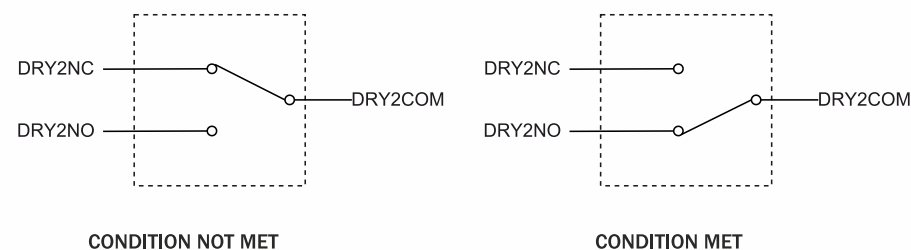

Fig.7 Relay 2 normal and fault operation
**DRY2 NC, DRY2 NO and DRY2 COM** is a programmable relay which has multiple functions which can be configured from the display, Eg: While performing Freq-Detect operation, Select Freq-Detect on display first through MENU >> PLC CONFIGURATION >> RELAY CONFIG >> RELAY TWO CONFIG >> RELAY TWO FUNCTION>> FREQ DETECT, then set the frequency accordingly. if the below conditions meet than DRY2COM pin will connect to DRY2NO as shown in fig.7